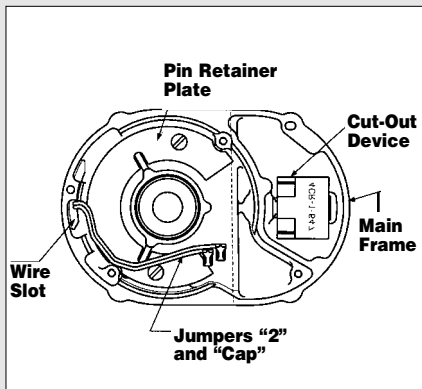
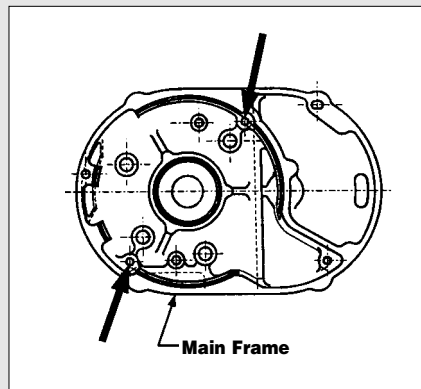

Figure 12A
Figure 12B
10. To install the stator, (Refer to Figure 12 A) and make sure that the pin retainer plate (620-125) has been assembled to the main frame (620-107). On single phase units slide jumpers "2" and "CAP" through the wire slot in the main frame. Route these wires around the rotor bearing boss in the main frame as shown in Figure 12A. Attach the brown and blue stator leads and "2" jumper to cut-out device (refer to wiring diagram). Slide the cut-out device into the cavity as shown. Push the cut-out device down until it sets on the main frame. Place the capacitor on top of the cut-out device and attach "CAP" jumper and the yellow stator lead to it. Re-route jumpers "2" and "CAP", if necessary to make sure they clear the rotor bearing boss as shown in Figure 12A. On all units slide stator leads through wire slot. Align the slots in the stator shell with the threaded holes in the main frame, as shown in Figure 12B. With the leads down, slide the stator into the main frame. Slide the rotor, large bearing first, into stator. Place the rotor thrust washer (620-104) on top of the exposed rotor bearing and then assemble the motor end cover (620-105) to the main frame. Using wiring diagram, complete the wiring at the brake end of the unit.